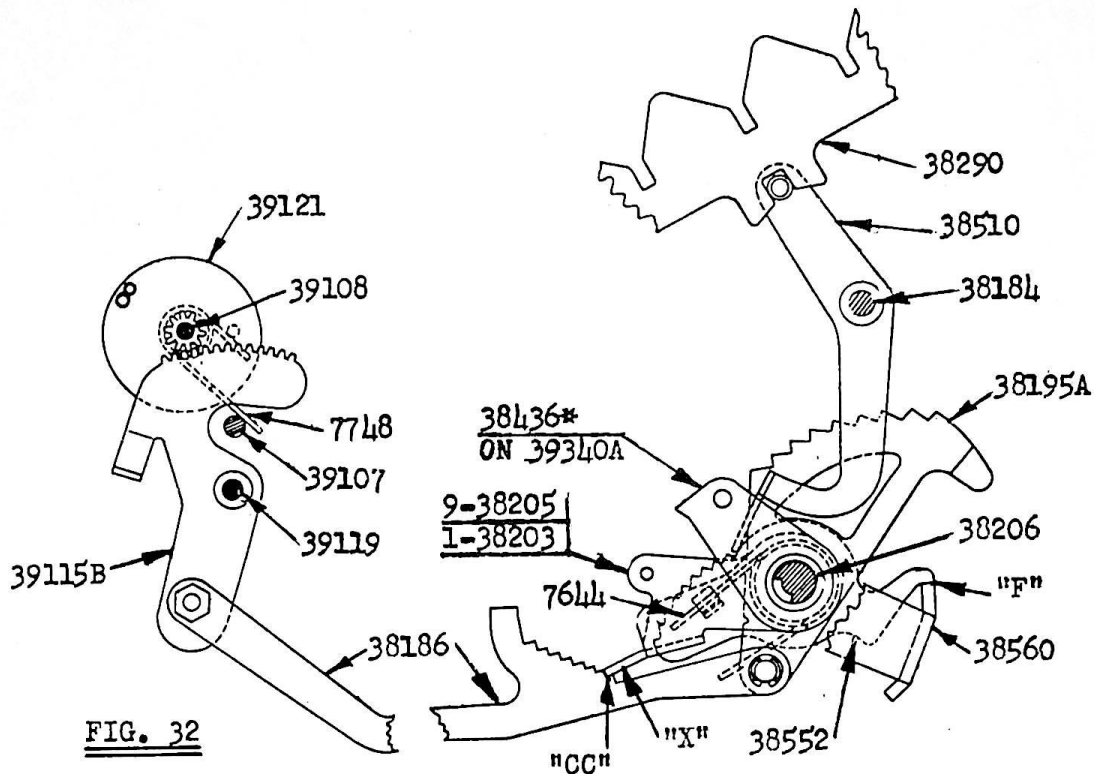

FIG. 32
10. (Fig. 32). When Bail-38560 is restored counter-clockwise its surface "F" contacts the Step Cams-38552 (which may be in any of the positions, "0" to "9") and restores them.
and thereby rocks the Mult. Keyboard Clear Lever-39845A clockwise. Surface "FF" on 39845A contacts ear "GG" on Live Point 39861* on the Selective Keyboard Clear Bail, and the Fingers "HH" rock the Levers-38283 up, thereby clearing the Keyboard in the standard manner. This returns the Selection Levers-3851C to their normal "Zero" position shown in Fig. 32. (Note that this Keyboard clearance on X-Key depression is not affected